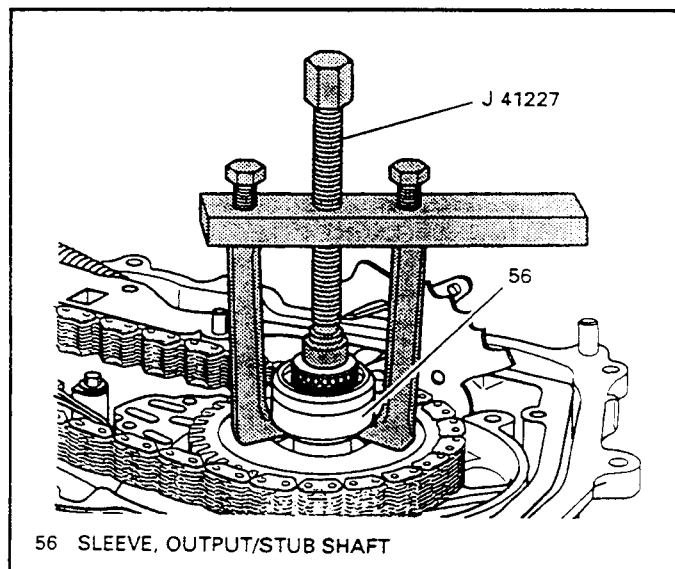

Figure 64
56. Remove and discard the output shaft sleeve as shown in Figure 64, using the sleeve puller tool J-41227.
57. Locate the pullers legs under the sleeve as it is shown in Figure 64, and tighten the pullers center bolt, to pull the sleeve off the shaft.